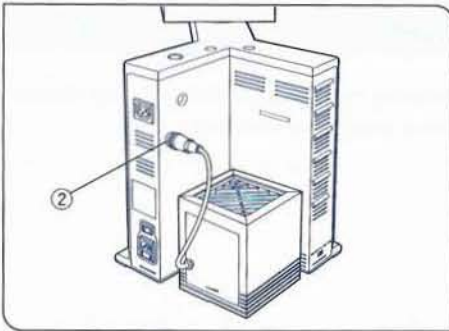

Fig. 5
3. Attach the connected cord plug into the power connector ② on the microscope. Make sure that the connector is tight. (Fig. 5)